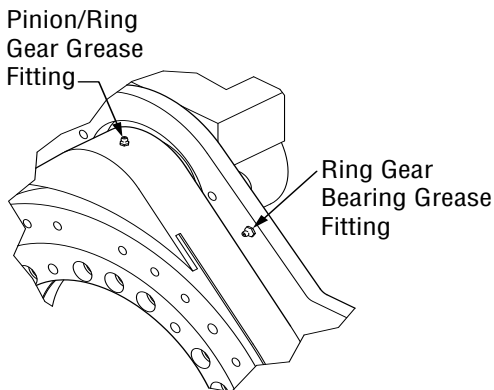

Figure 5-1, Grease Fitting Locations
4. To ensure proper greasing of gears and bearings, slowly rotate the ring gear 360° while greasing. This will allow grease to completely coat the gear. Gears must be fully greased, (Figure 5-1). Also see Figure 6-1 for grease zerk locations.